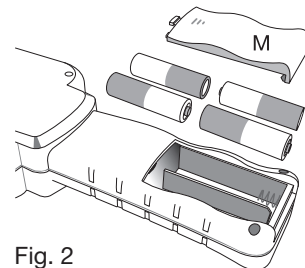

Fig. 2
- Remove battery cover (M) and install four (4) AA 1.5 volt batteries (refer to Figure 2).